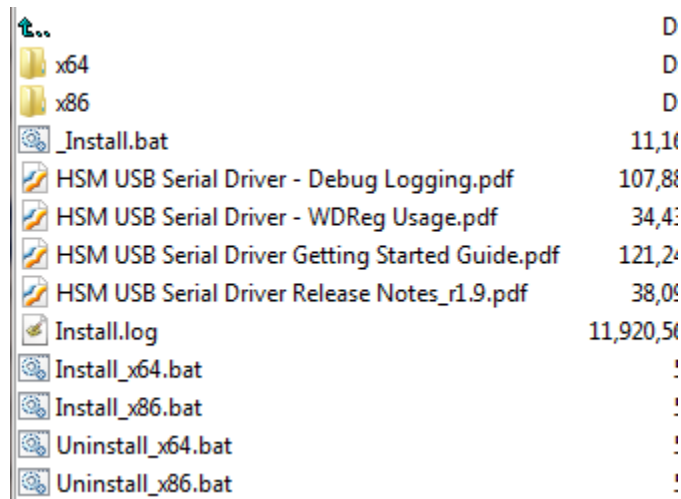

Figure 1 – Honeywell Serial Driver Files
4. Run the batch file for your operating system. Either Install_x64.bat or Install_x86.bat See Figure 1.